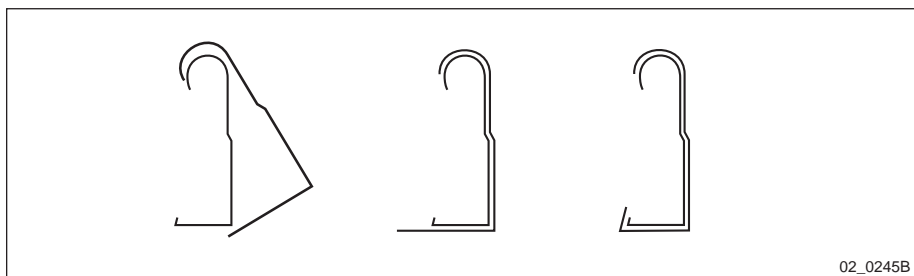

Figure 2 Mounting of Jointing Iron SXA 105 7512/1
7. Place the Cable Run SXA 105 6588/5 (pos 1) on the wall consoles/ceiling fixings beginning at the cable lead-in.
8. Install Angle Supports SXA 105 7513/1 (pos 5) against the wall and the cable ladder end.
11. To join straight cable ladders, use Jointing Iron SXA 105 7512/1 (pos 4), place it on the cable ladder and fold in the locking tongue, see figure 2.